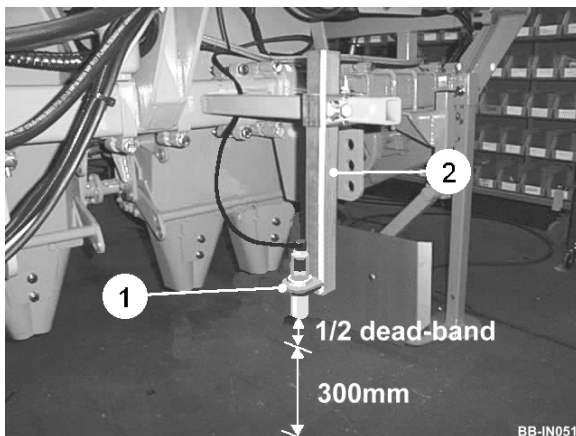
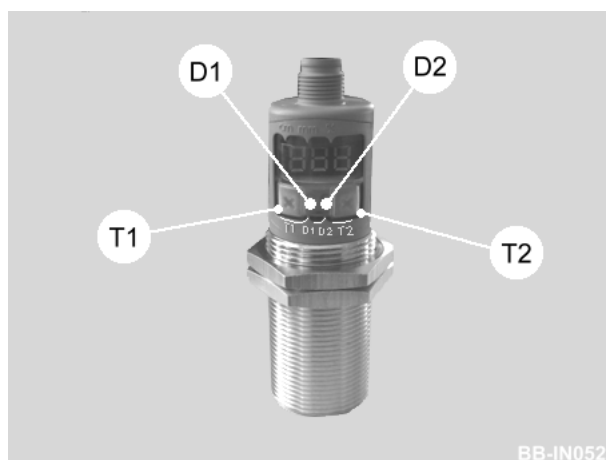

Fig 21
Fig 23
Automatic depth control of each pair of openers ensures that the desired planting depth is maintained irrespective of the contours of the bed. The ultrasonic sensor (item 1, fig 21) senses the height of the bed in front of the openers. The depth ram (item 2, fig 13) then raises/lowers the openers independently thus maintaining planting depth. The depth control is turned on from the control box switch marked 'AUTO DEPTH'. The LED will illuminate when the system is active. The 3 switches marked 'OPENER RAISE/LOWER' will override the automatic depth on the rows indicated.
4. Fully lower the sensor leg (item 2, figure 21) and then gradually raise it until both LED's (D1 & D2, fig 23) are illuminated green. This is the neutral (dead-band) zone. Raise the leg slightly to position the sensor in the middle of the neutral zone. Ensure both LED's are still green and then retighten the leg.